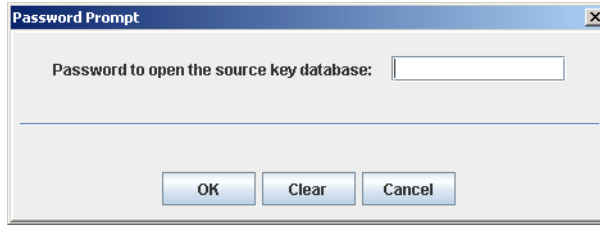

Figure 6-27 Password Prompt
3. Authenticate to the keystore from which you want to import the keys by entering the password (Figure 6-27). Click **OK**.